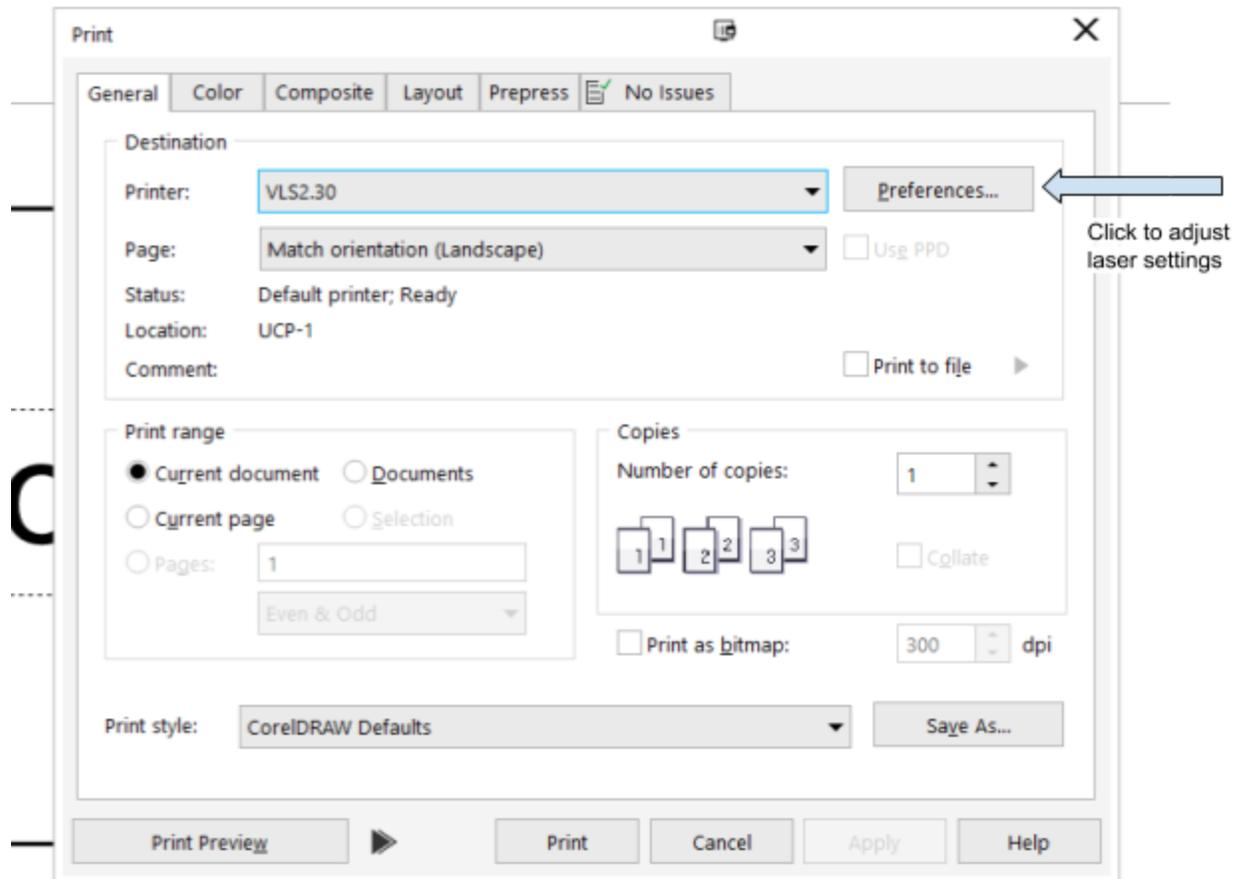

Figure 8 - Print Dialog
1. Send your file to the laser by selecting File -> Print. Set the Printer to "VLS2.30" and then click Preferences. (Figure 8).
7. When engraving a cylindrical object open the VLS 2.30 settings (Figure 8). Change “Fixture Type” to “ROTARY” and enter the diameter of your object. Press “Apply” and “OK”. In the Print Dialog Press Print.
Solution: Double check that your calipers are properly calibrated by fully closing them and checking that the display reads 0.000. Confirm the measurement of your material in the Laser Settings (Configure Laser Settings Figure 8). Additionally in the laser settings confirm that "Auto Z" is enabled.